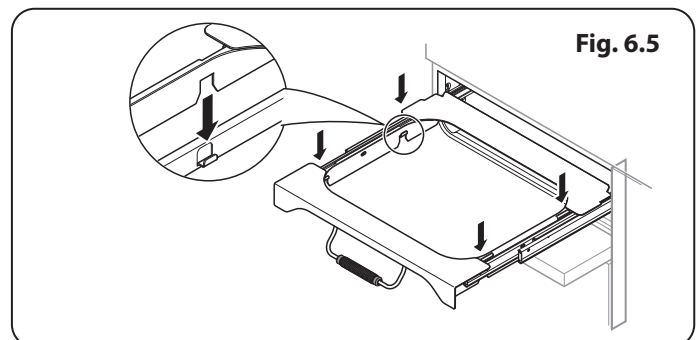

Fig. 6.5
5. Once you have finished, hook the side rails back onto the sides of the chamber. Pull the telescopic rails out and fit the broiler tray onto them, making sure to locate the cut-outs onto the telescopic runner tabs (**Fig. 6.5**).